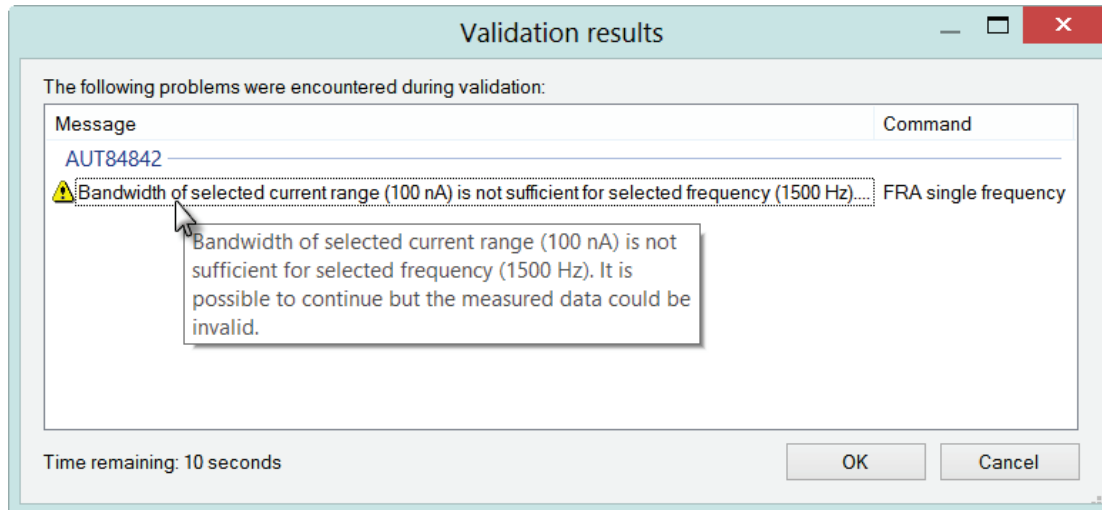

Figure 1.105 – Ignore the warning shown during the validation of the procedure
4. Start the measurement and wait until it has been finished. Ignore the warning displayed during the procedure validation (see Figure 1.105).